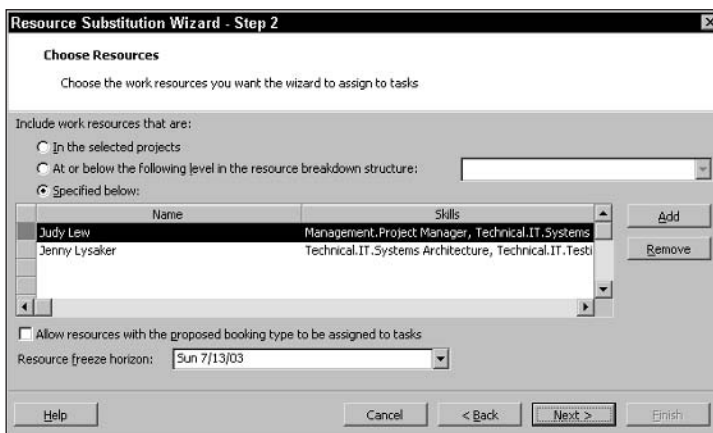

Figure 20-23: Use this screen to identify the resources that the wizard should consider when making substitutions.
4. Choose resources for the wizard to consider when rescheduling projects, as shown in Figure 20-23. Click Next.